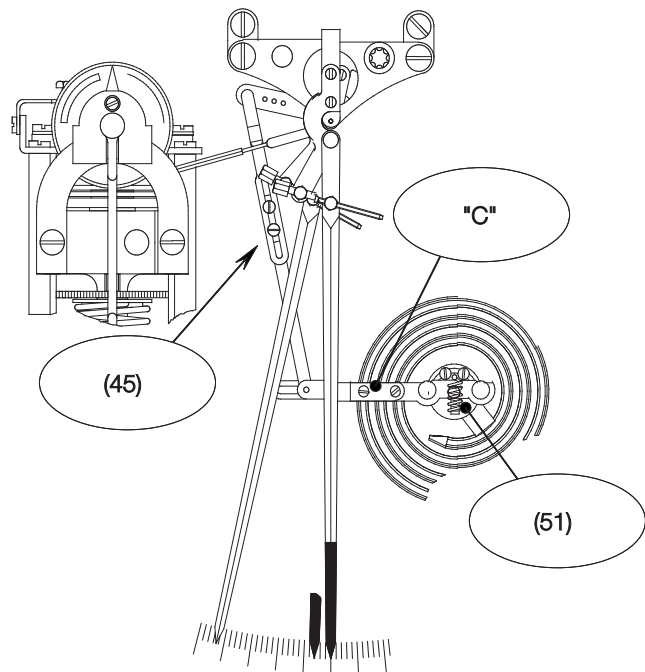
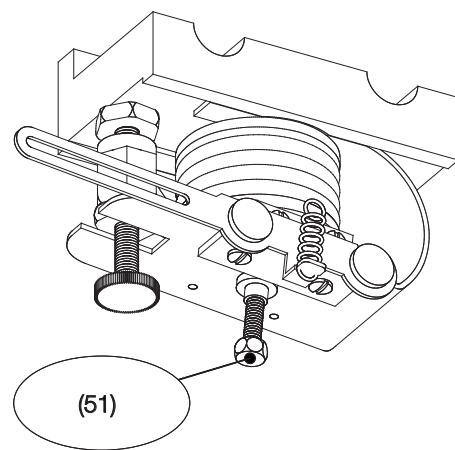

Fig. 8.1.1
Fig. 8.1.2
Correct any minimal deviations of the black indicator (measured variable) from the real value by turning the hexagonal part of the tie rod (45) (see Fig 8.1.1).
See Fig. 8.1.1 for temperature and pressure elements. See Fig. 8.1.2 for 3 to 15 psi receiving elements.